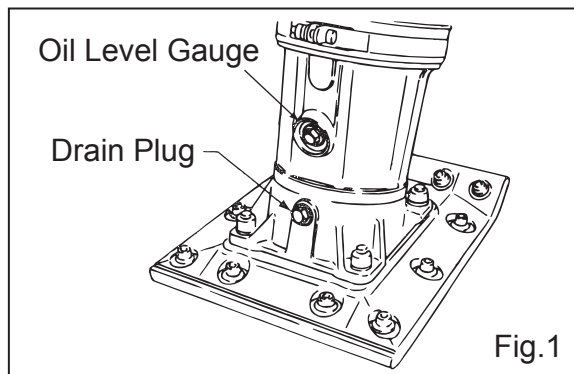

Fig.1
- 7-2. Check the oil level through a window at rear end of the foot. Replenish oil if oil is not visible at the window. For lubrication, use automobile engine oil of 10W-30 SE,SF or better grade. Capacity is 520cc for MT-55/MT-55L, 750cc for MT-65H and 800cc for MT-72FW or the like. (Fig.1)